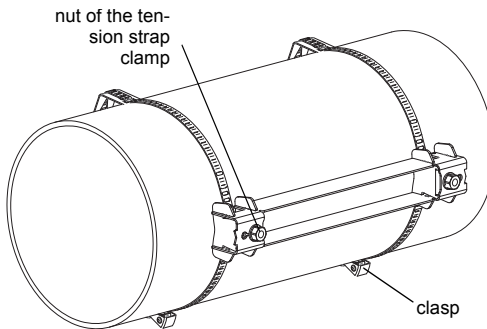
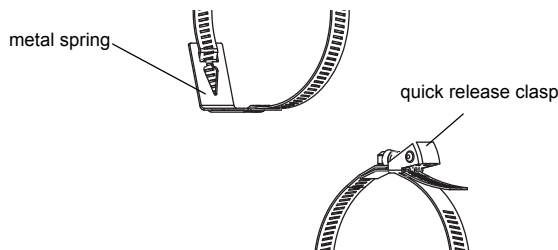
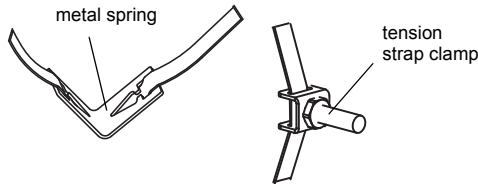

Fig. 7.15: Rail on the pipe
Fig. 7.16: Tension strap with quick release clasp and metal spring
Fig. 7.17: Tension strap with the metal spring and the tension strap clamp
- Insert the tension strap in the second tension strap clamp (see Fig. 7.15).
- Tighten the nut of the tension strap clamp (see Fig. 7.15).
- Insert the tension strap in the second tension strap clamp and the metal spring (see Fig. 7.15 and Fig. 7.16).
- Place the tension strap around the pipe and insert it in the clasp (see Fig. 7.16).
- Insert the tension strap in the second tension strap clamp and the metal spring (see Fig. 7.15 and Fig. 7.17). It is not necessary to mount the metal spring: